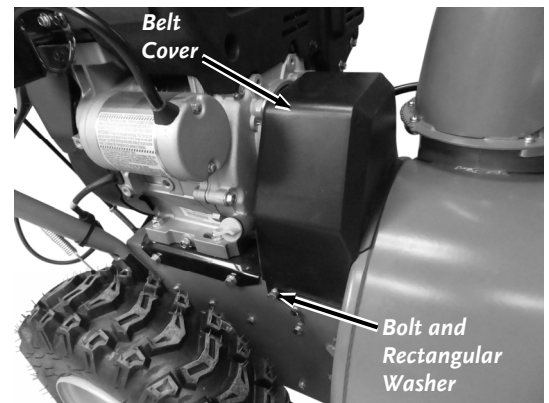

Figure 45
1. Remove the two Bolts and rectangular Washers from the Belt Cover using a 10mm Wrench (**Figure 45**). Remove the Belt Cover.